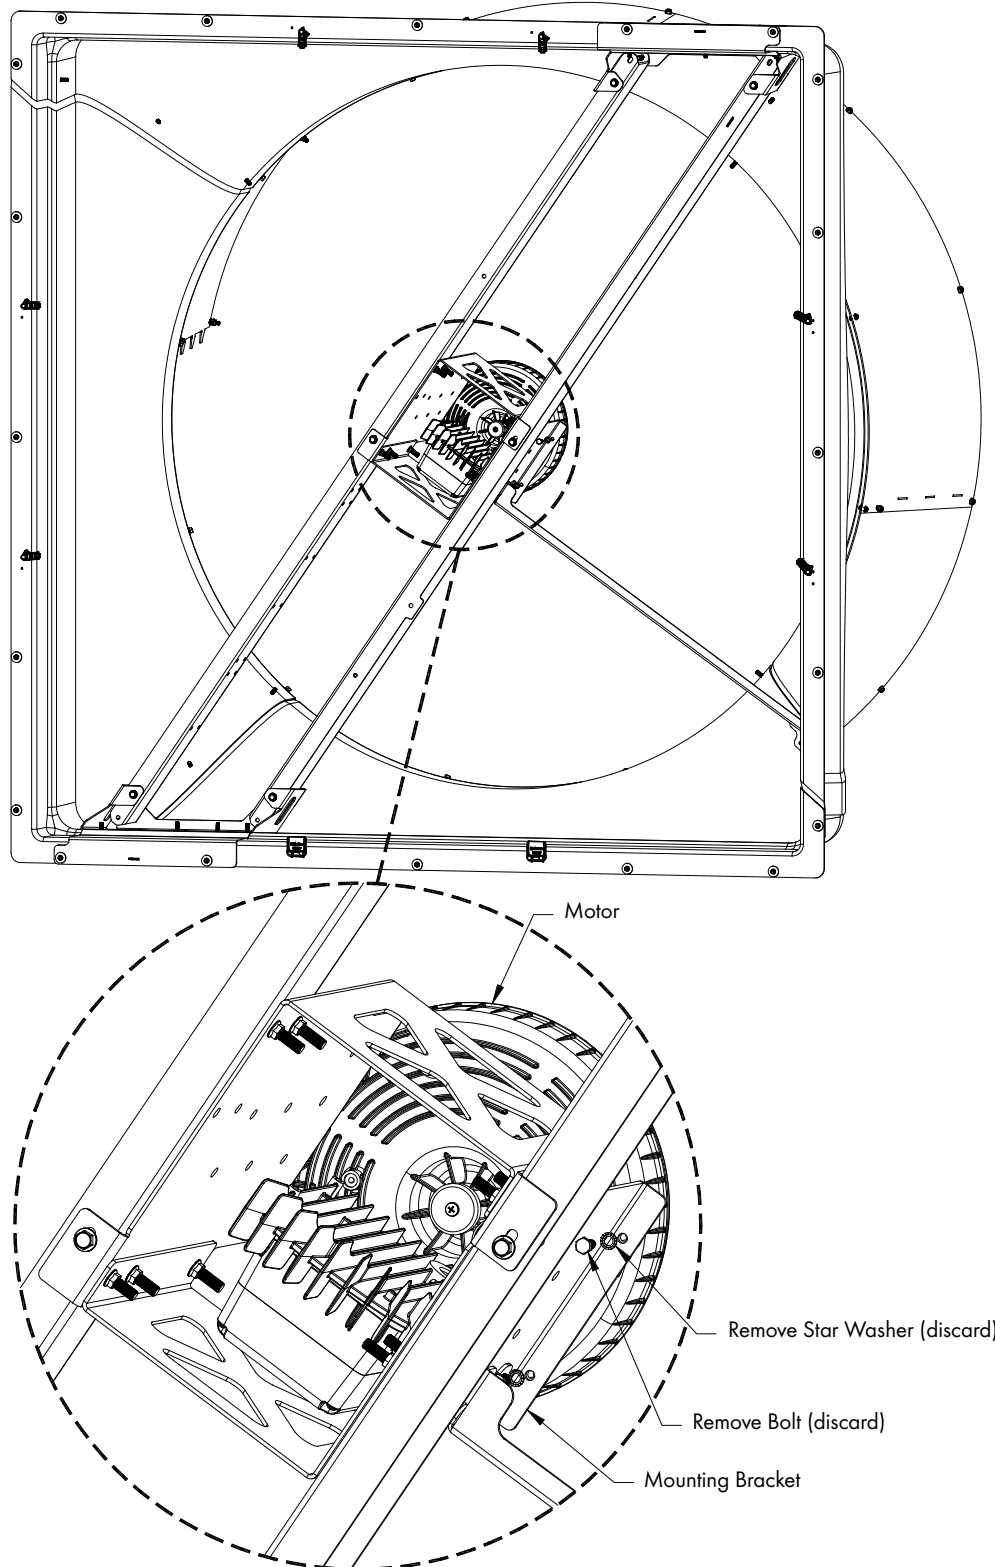

Figure 7
Remove the (4) bolts and star washers holding the Motor to the brackets. Motor is heavy, make sure to support it while removing bolts so it does not fall and damage fan housing or Motor. See Figure 7. If you were instructed by Munters office to send the old Motor back to the office, repack it in the box that the new Motor came in to send back.